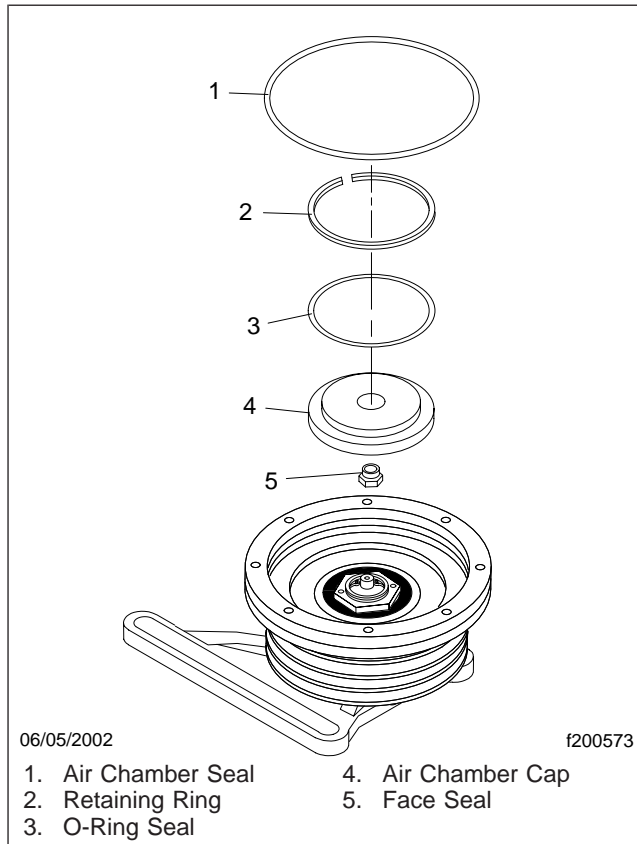

Fig. 5, Air Chamber Seal Removal and Installation
13. Remove the air chamber seal. See Fig. 5.
15. Remove the air chamber cap retaining ring. See Fig. 5.
17. Remove the O-ring seal from the air chamber cap. See Fig. 5.
18. Remove the face seal. See Fig. 5.
6. Assemble the air chamber cap and face seal. See **Fig. 5**.
8. Install the O-ring seal on the air chamber cap. See **Fig. 5**.
9. Carefully set the air chamber cap into the sheave. See **Fig. 5**.
10. Install the retaining ring. See **Fig. 5**.